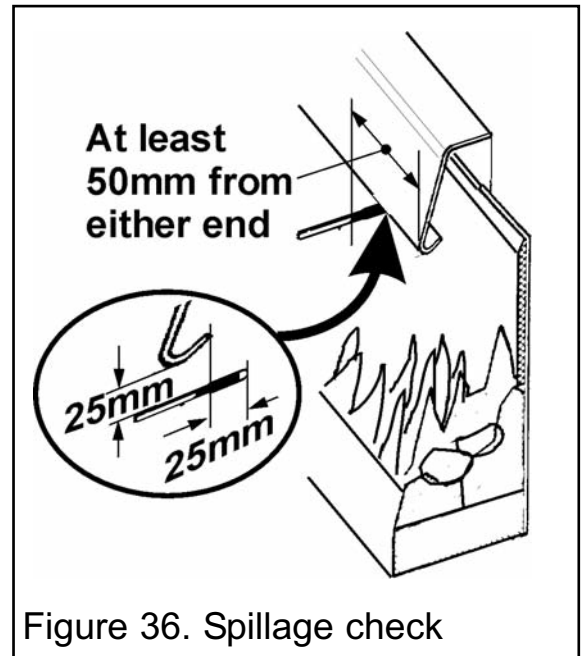

Figure 36. Spillage check
4. Place the smoke match into the appliance canopy (See figure 36).